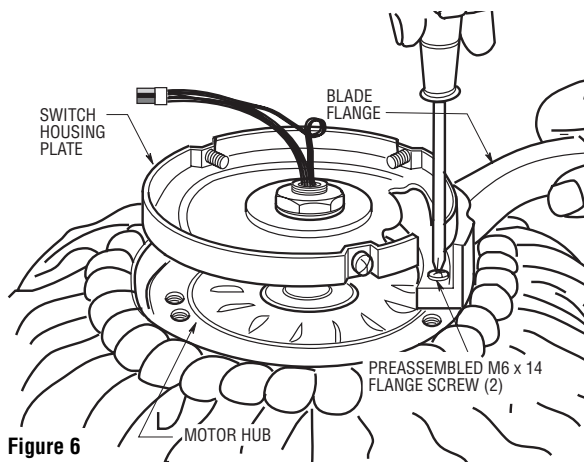

Figure 6
- 10. Rotate the motor hub until the flange screw hole is next to the cutout in the switch housing plate. Loosely attach one blade assembly to the motor hub using two M6 x 14 flange screws preassembled in flange. Make sure the screws are **NOT** tightened. (Figure 6.) Repeat this procedure for the other four blade assemblies.